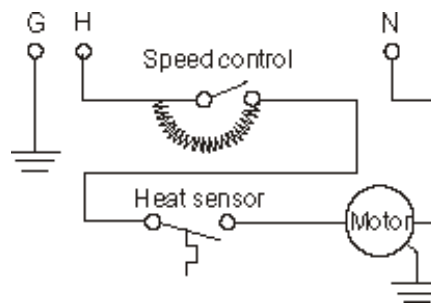

Figure 11b. Wiring Schematic for the fan circuit.
9. Install the fan speed control and toggle switch assembly. Slide the assembly into the location on the top right of the faceplate as shown from a reverse angle in figure 11b.